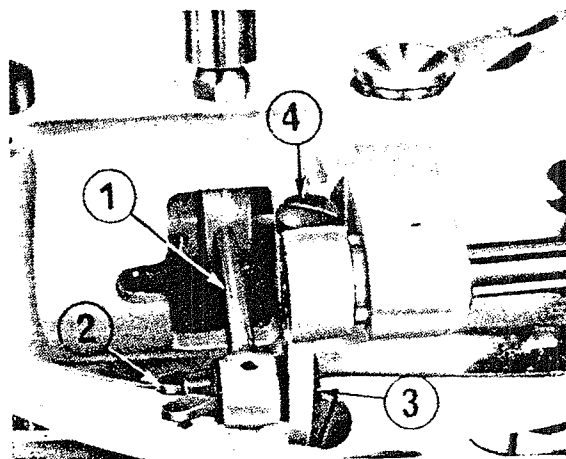

Fig. 14
The range of the walking foot can be adjusted by loosening the wing screw (Fig. 14 ②) of the upper feed driving rod (Fig. 14 ①); to increase the feed amount, move the upper feed spring rod connecting shaft (Fig. 14 ③) toward "up" and to decrease the feed amount, move it toward "down" and tighten the shaft.